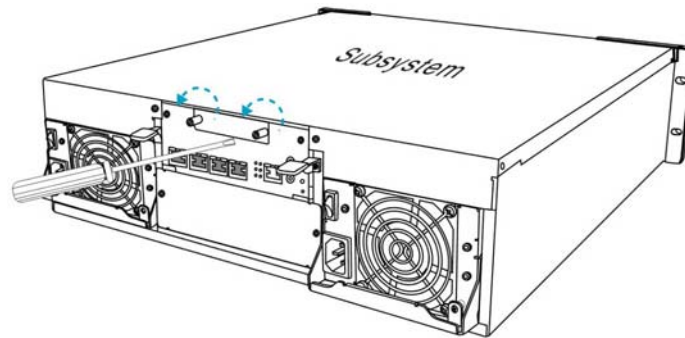

Figure 2-2: Loosening the BBU Retention Screws
Step 2. Use a screwdriver to *loosen the two (2) retention screws located on both sides of the dummy plate*. (See *Figure 2-2*)